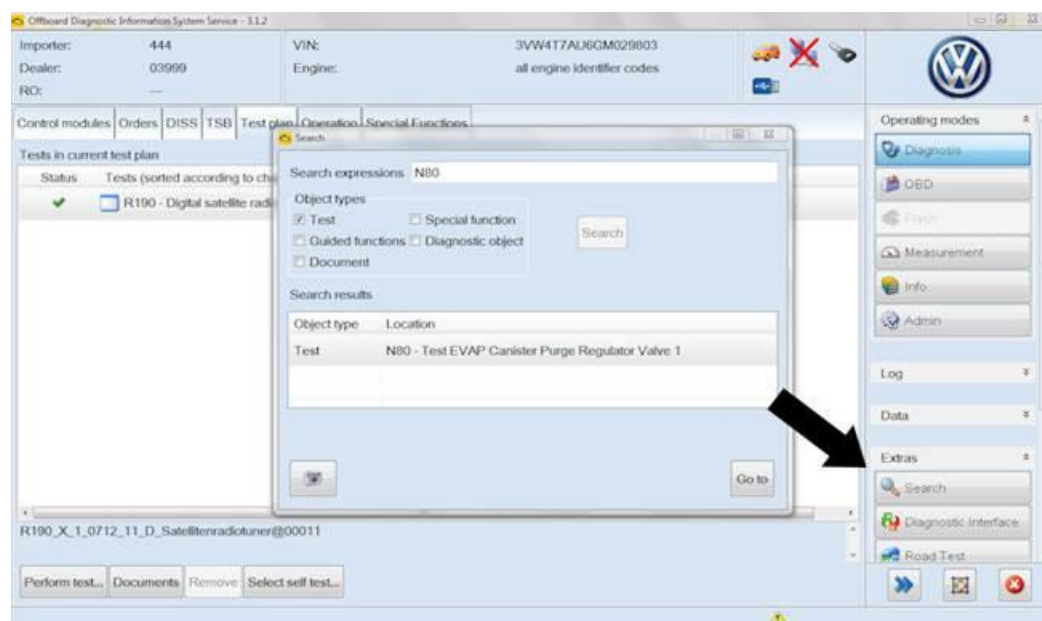

Figure 2
- Attach the “Activated charcoal filter system, solenoid valve 1 -N80- “test” to the test plan list (Figure 2).